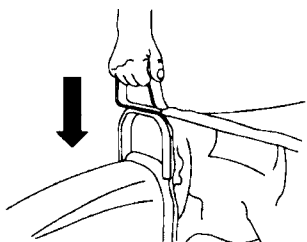

Figure 48
15. Grasp the bag assembly handle and slide it over the flange of the grass chute (Fig. 48). Push downward on the handle until it seats into position.